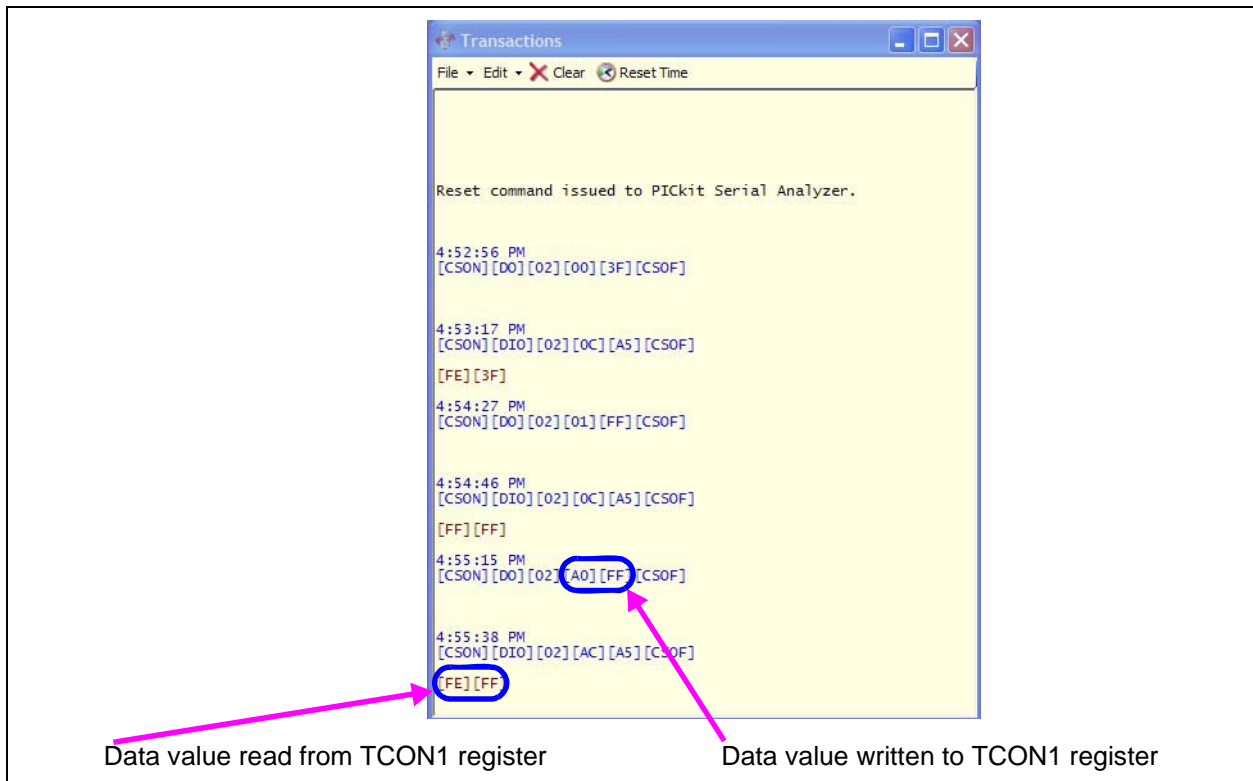

FIGURE 2-15: MCP4361 Transaction Window - TCON1 Writes and Reads.
18. Click on the **Execute Script** button. This executes the script shown in the script detail column. The Transaction window (see Figure 2-15) will be updated to indicate the execution of the script.
20. Click on the **Execute Script** button. This executes the script shown in the script detail column. The Transaction window (see Figure 2-15) will be updated to indicate the execution of the script. The Data read is shown in the last line.